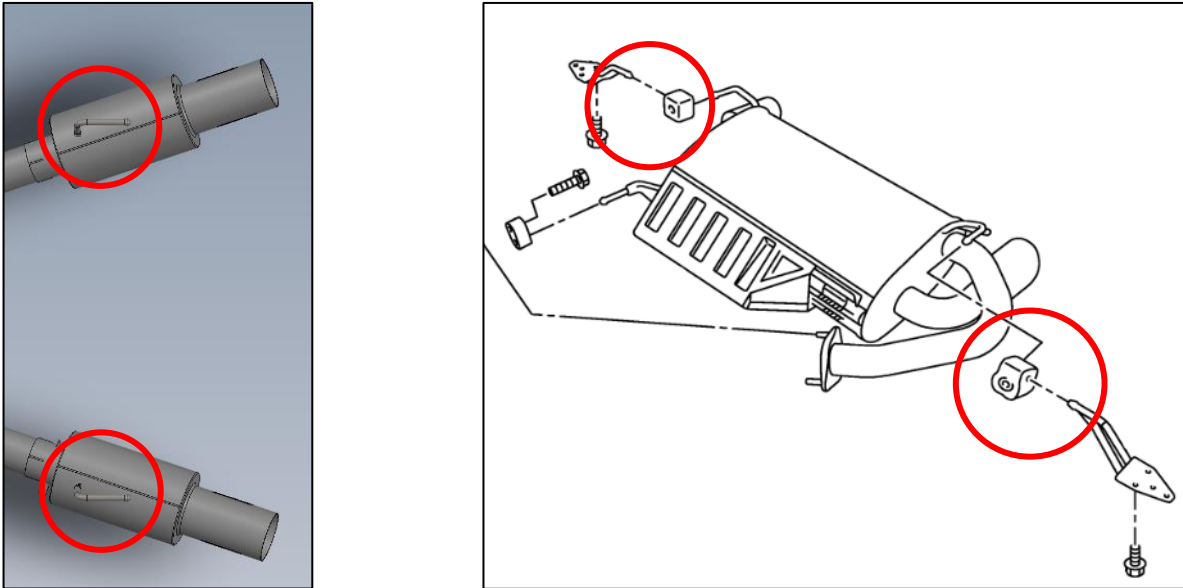

Figure 5
5. Hang the Mufflers onto the rear Exhaust Hangers. *Figure 5.*